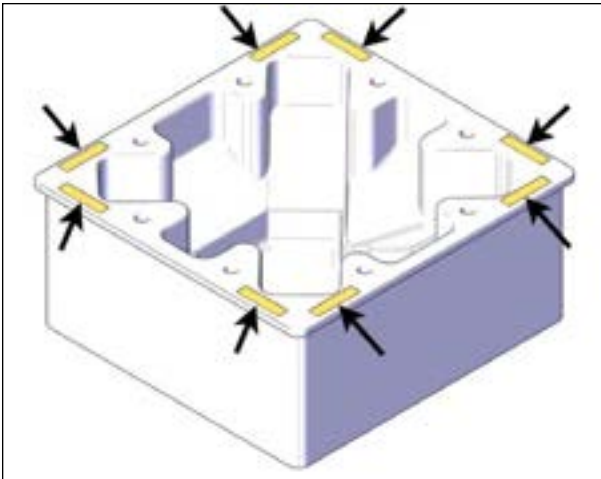

FIGURE 32: FOAM SPACER INSTALLATION
1. Install foam spacers on the top of the spa near each corner. Use the masking tape provided in the seal bag to keep the spacers in place. Install at least 3 foam spacers on each longest side. Do not stack foam spacers see Figure 32.